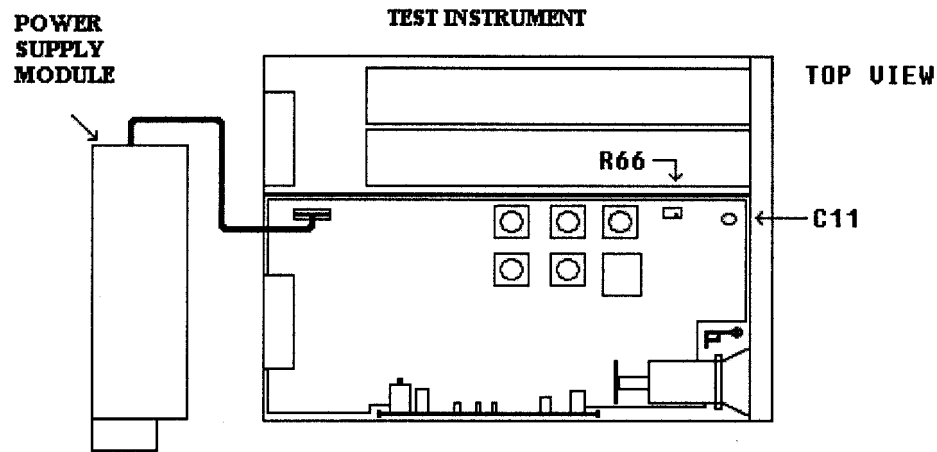

Figure 5. Trigger level adjust.
- (8) Set up function/arbitrary generator for an output of 1.00 Vpp 100 kHz square wave.
- (9) Set oscilloscope **Vertical 1** and **Vertical 2** input impedance to 50 Ω.
- (10) Adjust oscilloscope controls to obtain a satisfactory dual two-channel display on the crt.
- (11) Rotate TI **FINE CONTROL KNOB** clockwise, increasing the trigger level. Record the level at which the waveform disappears. Reset the trigger level to 0.10 V.
- (12) Rotate TI **FINE CONTROL KNOB** counterclockwise, decreasing the trigger level. Record the level at which the waveform disappears. Reset trigger level to 0.10 V.
- (13) Add the results of (11) and (12) above. Divide this value by two and subtract the result from the value recorded in step (11). Rotate TI **FINE CONTROL KNOB** to adjust trigger level to this new value.
- (14) Adjust R66 (fig. 5) until **Vertical 2** waveform just disappears (R).
- (15) Using TI **FINE CONTROL KNOB** adjust trigger level to 0.52 V.
- (16) Adjust C11 (fig. 5) to the point that the waveform just disappears (R).
- (17) Press TI **POWER ON/DISABLE** key to **DISABLE**.
- (18) Disconnect 115 V power cord from TI.
- (19) Reinstall power supply module in TI chassis.
- (20) Replace TI top cover.
- (21) Reconnect 115 V power cord to TI .
- (22) Press TI **POWER ON/DISABLE** key to **ON**.